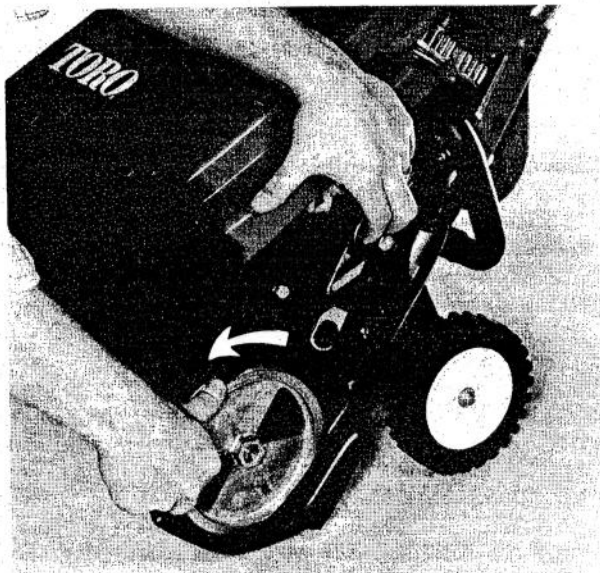

Figure 18
6. Pull idler pulley up and rotate impeller pulley forward so belt rolls onto it (Fig. 18).